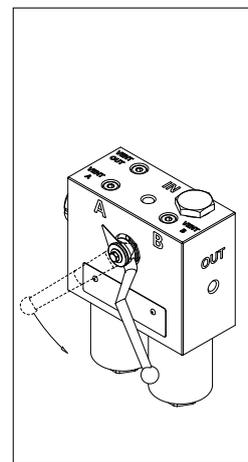

fig. 4
- (Fig. 4) Turn the switching lever through 90 degrees to start the new side and release the WASTE SIDE